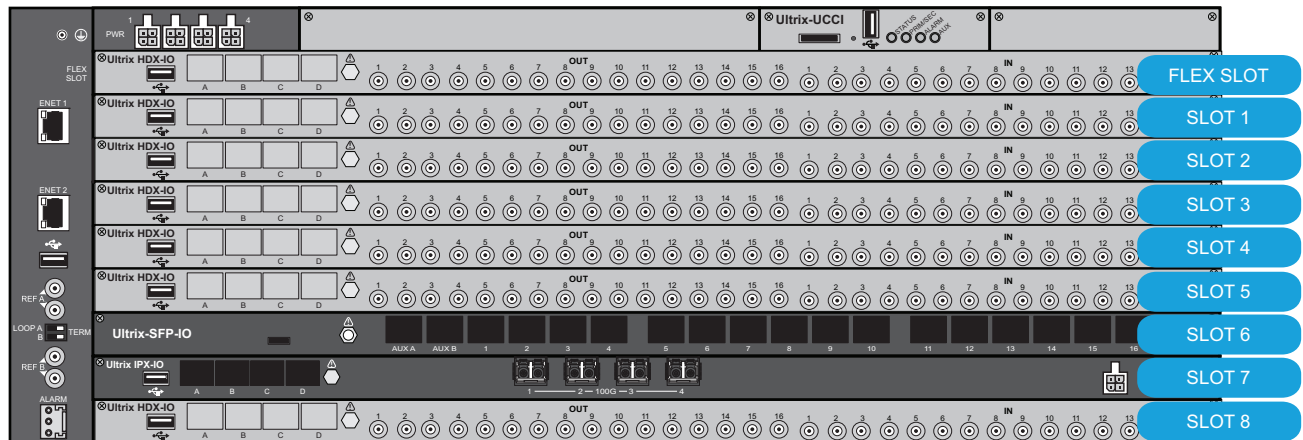

Figure 15 Slot Numbering — ULTRIX-FR5
**Figure 15** outlines the numbering scheme for the ULTRIX-FR5 chassis. Note that the **FLEX** slot is the topmost slot.